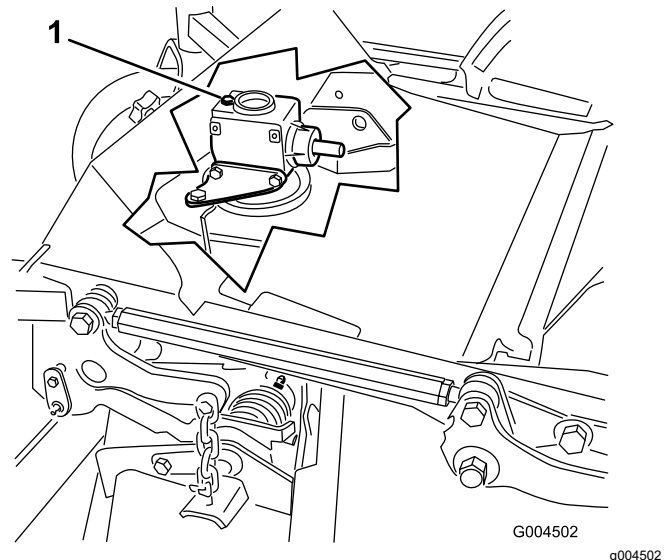

Figure 65
6. Remove the dipstick/fill plug from the top of the gearbox and make sure that the lubricant is between the marks on the dipstick (Figure 65).
6. Remove the dipstick/fill plug from the top of the gearbox (Figure 65).